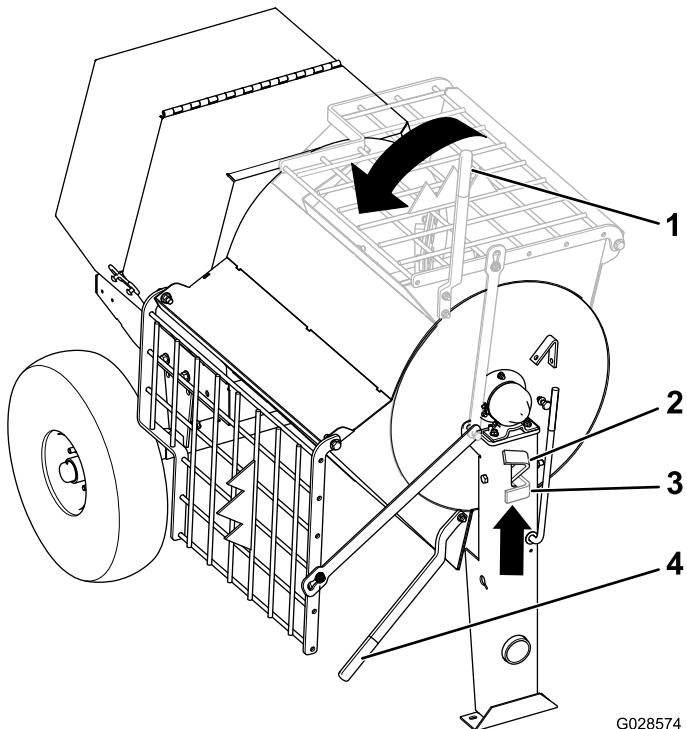

Figure 32
- Grasp the dump handle with your left hand (Figure 32).
3. Lift the handle of the drum latch (Figure 32).
4. With both hands on the dump handle, rotate it counterclockwise to discharge the contents of the drum (Figure 32).
5. Rotate the dump handle **clockwise** until the drum latch locks the drum in the upright position (Figure 32).